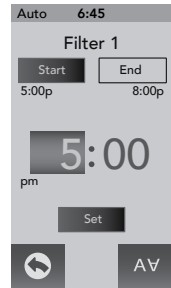

Figure 12.3c
- A. To change the default cycle (Figure 12.3c):